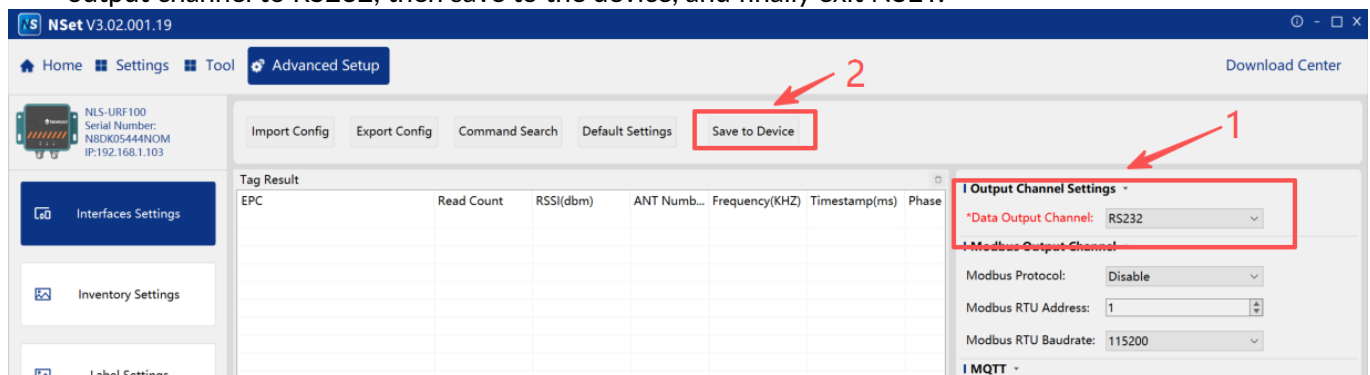

Figure 3-5
- (1) The URF device and the host are connected using an RS232 serial cable. The serial port baud rate is 115200, parity bit N, data bits 8, stop bit 1.
- (2) Use NSET to connect to the device and enter the settings interface, as shown in Figure 3-5. Set the data output channel to RS232, then save to the device, and finally exit NSET.